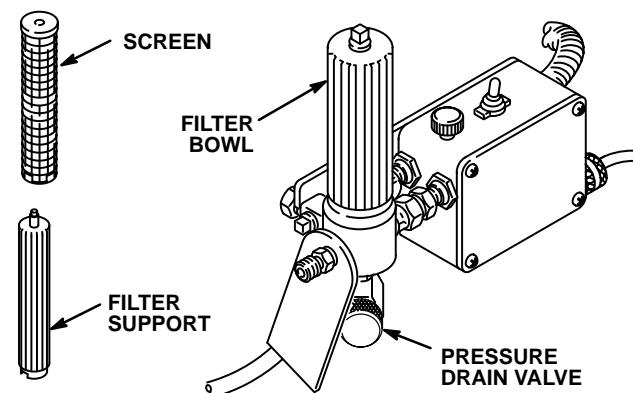

Fig 14-1
2. Remove the filter bowl and screen; see instruction manual 307-273, supplied. Clean the screen separately and install the bowl (only) to flush it. See Fig 14-1.